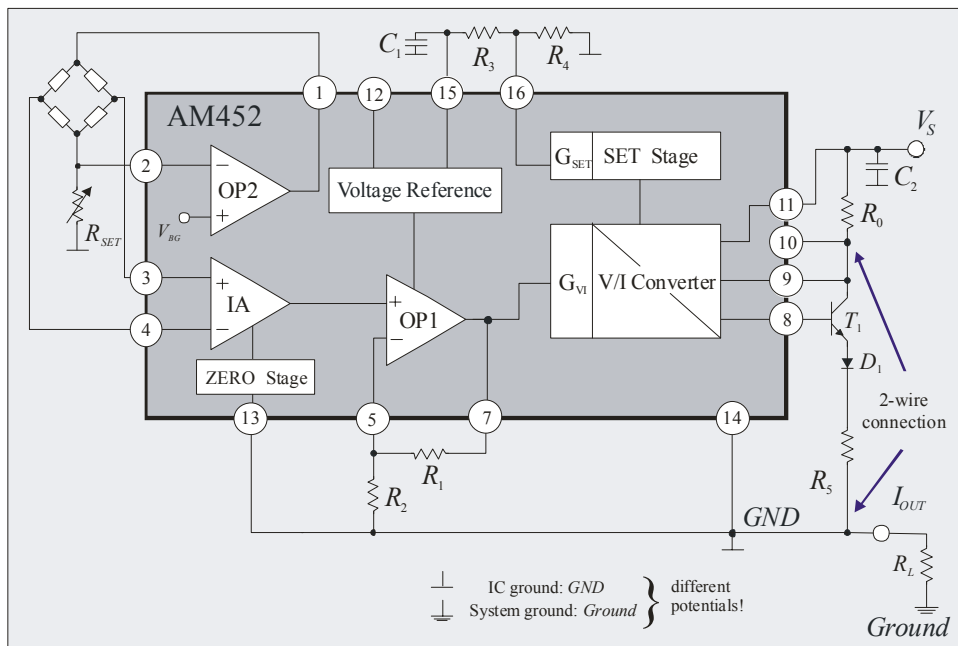

Figure 7: Typical 2-wire application for differential input signals
If the offset output current is not exactly 4mA due to component tolerances and deviates from this value, the voltage can be adjusted at pin 16 (SET) using voltage divider R_3 and R_4 (see *Figure 7*) and the output value thus corrected (c.f.: *Offset compensation using a voltage divider at SET*).
The offset value of the output current can be adjusted at the SET pin (pin 16) via voltage divider R_3 and R_4 (see *Figure 7*). If, due to internal offsets and parasites, the output current is too great by 0.1mA, for example (4.1mA and 20.1mA), the current must be reduced by this amount, i.e. I_{SET} may only be 3.9mA. In this example and if $V_{REF} = 5V$ Equation (9) yields the following: